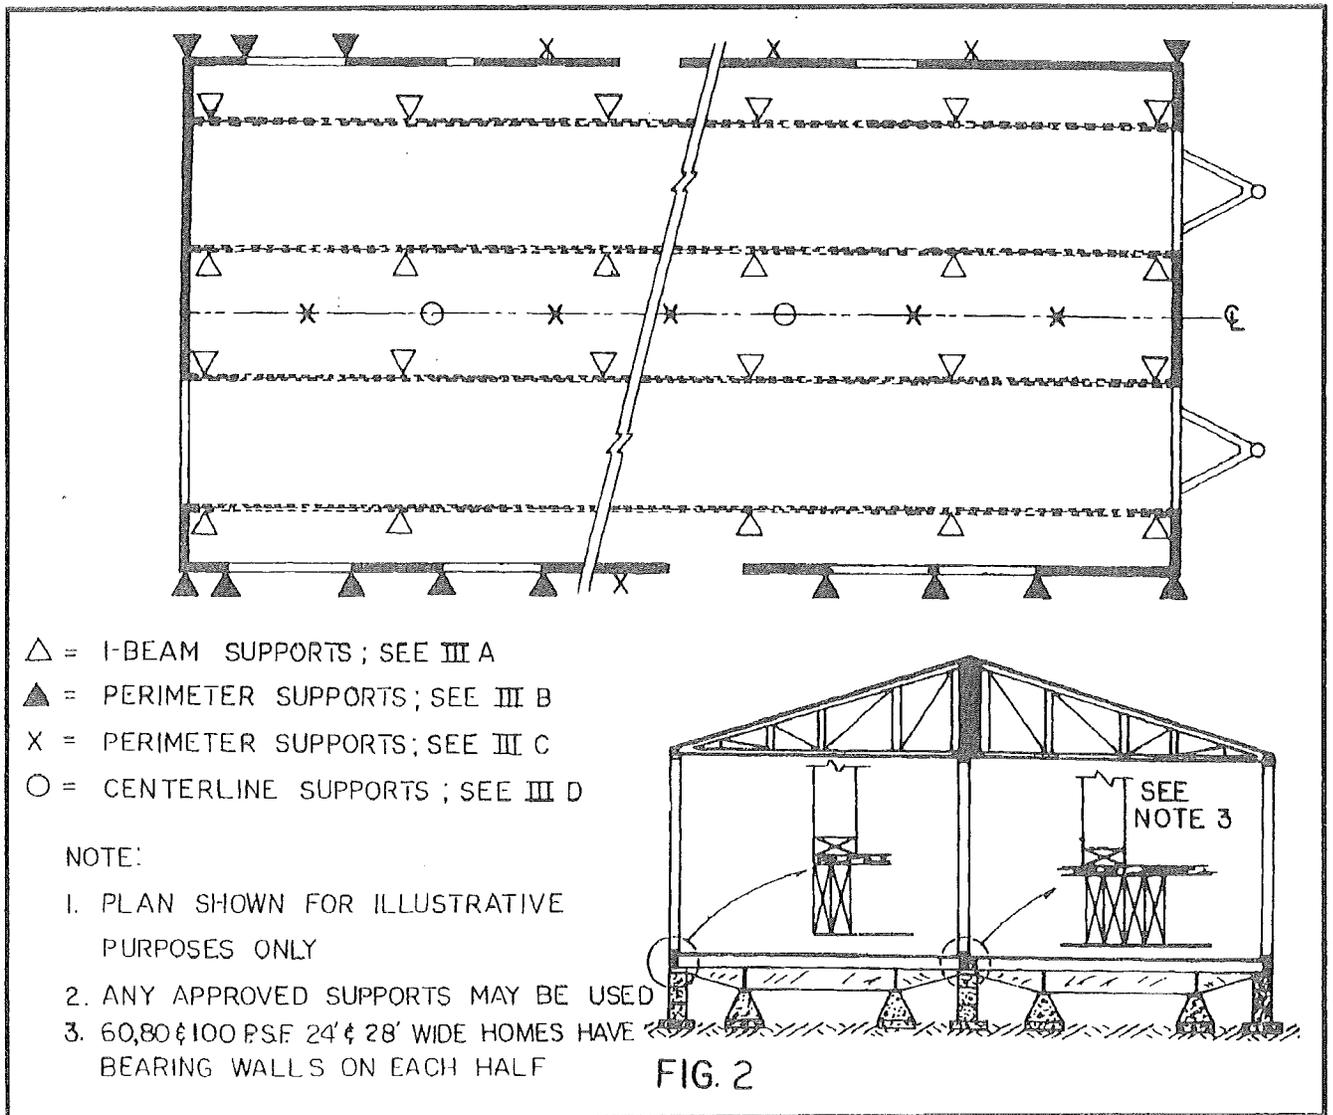

FIG. 2
- A. Install footings and piers under each main "I"-beam: (See Fig. 2, piers designated Δ). One support is to be placed within 1'-0" of each end of each "I"-beam with additional spaced along each "I"-beam as follows:
- B. Install footings and piers under each sidewall at the jambs of all openings 4' wide or over. Place an additional support at each end of each sidewall (See Fig. 2, piers designated ▲). The design loads for these supports are per TABLE 4.
- C. Measure the spaces between the supports installed in step B above and install additional supports in these spaces such that the maximum distance between piers will be no greater than the spacing given in Table 4 (See Fig. 2, piers at sidewall location designated X):
Measure the spaces between the piers under centerline columns and install additional support in these spaces such that the minimum distance between piers will be no greater than the spacing given in Table 4 (See Fig. 2). This additional support is required for 30 p.s.f. or more roof load areas.